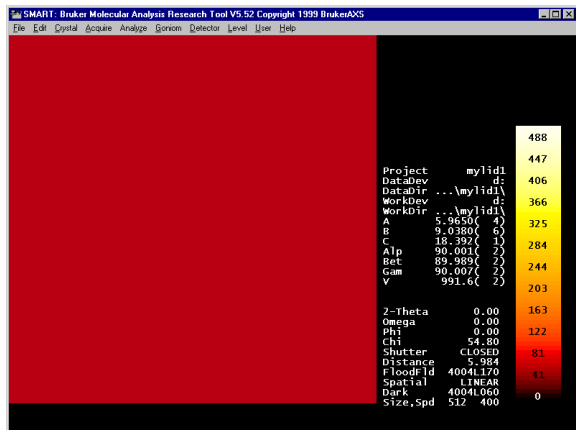

Figure 4-9. Screen showing data from previous project
- Press OK (normal response). The program then communicates with the instrument, then loads the calibration files and parameters from the previous project (Figure 4-9).